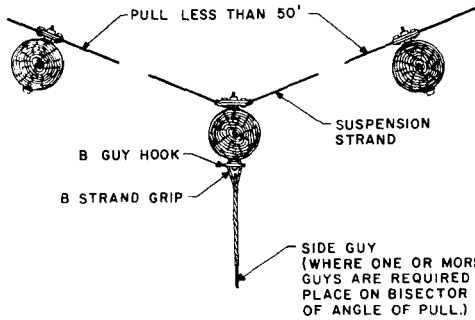

Fig. 1—Corner Pole With Guy on Bisector of Angle of Pull
2.02 Where the pull on the corner pole is 50 feet or less, place a side guy bisecting corner angle. See Fig. 1.